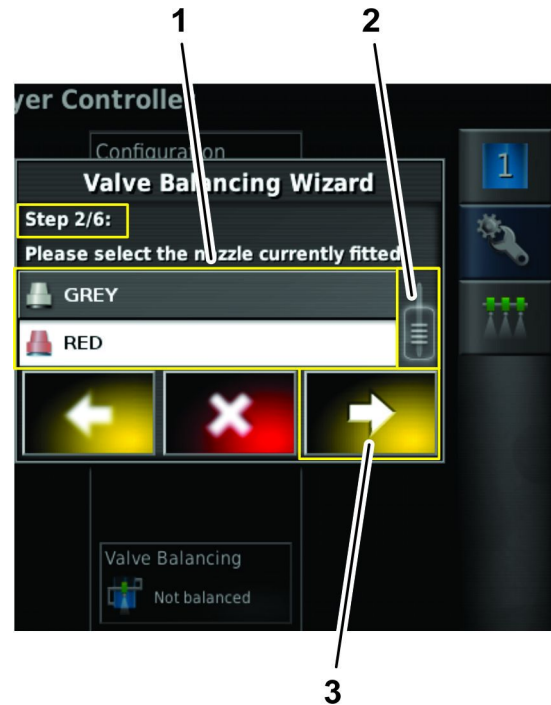

Figure 135
2. At step 2 of the valve balancing wizard, drag the scroll bar as needed to display the spray nozzle that you are configuring, and then press the nozzle icon from the drop-down list (Figure 135).
3. Press the next icon (Figure 135).